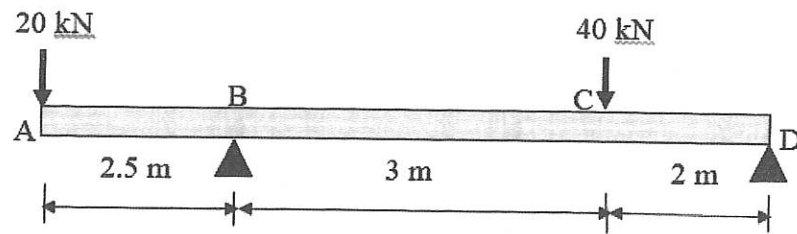

Figure 2 / Rajah 2
- (c) An overhang beam with 5.5 m length is subjected to a point load of 20kN and 40 kN as shown in Figure 2. Draw diagrams of the beam to show shear force and bending moment. Given reaction, $B_y = 46\text{kN}$ and $D_y = 14\text{ kN}$.